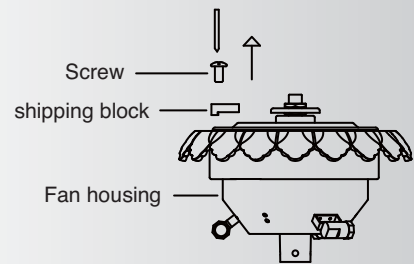

Fig. 5
Step 1. Remove the fan motor and housing assembly from the protective plastic bag and take the lower styrofoam packing pad out of the carton. Place the styrofoam pad on the floor. Then place the fan assembly into the styrofoam pad with the bottom of the motor facing up. (The lower foam pad serves as a holder for the fan during the first stages of assembly). Remove the plastic motor shipping block and discard. (Fig. 5)